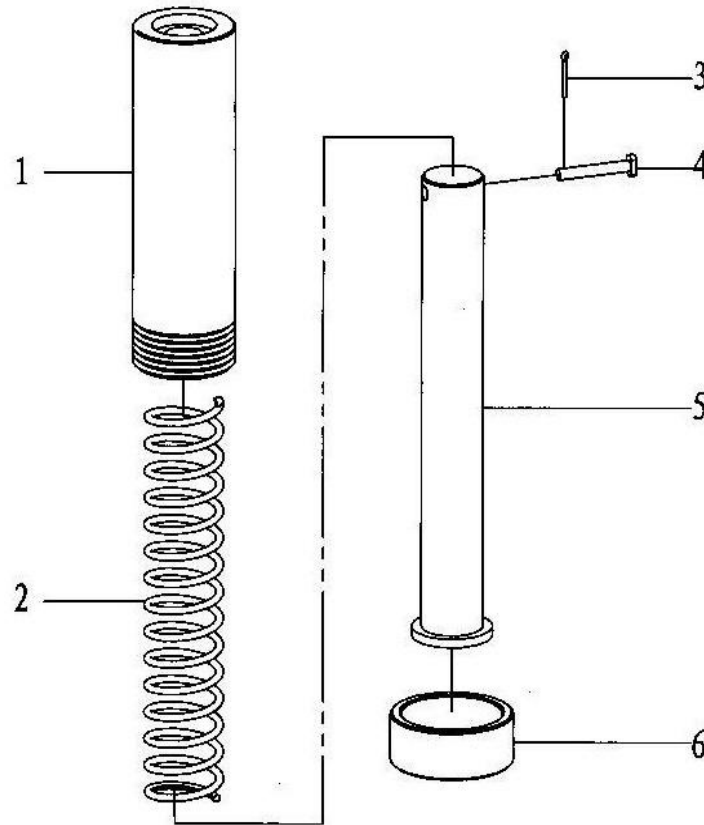

Fig.8-14
8.14Rear guide pole and parts list(Fig.8-14,Table 8-14)